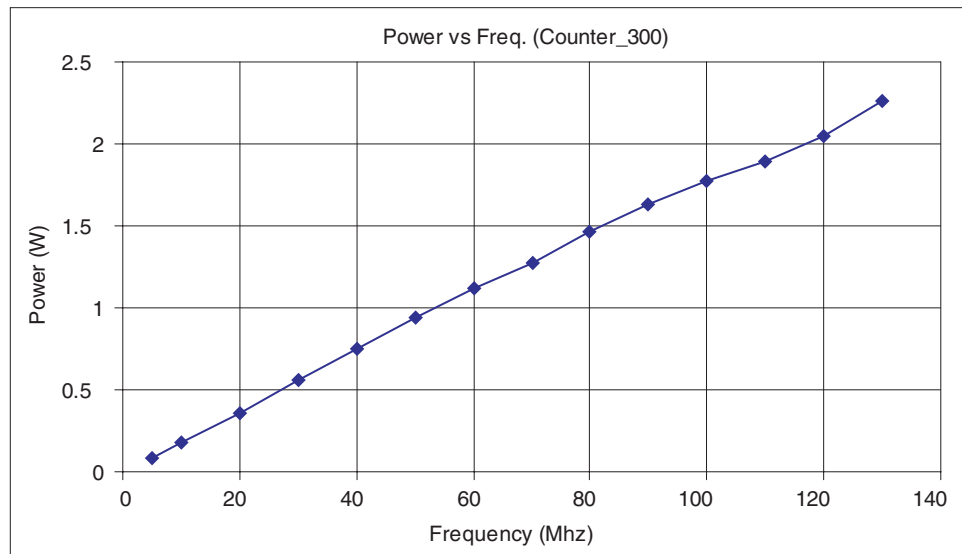

Figure 22: Power Consumption
Figure 22 exhibits the power consumption in an EclipsePlus QL7180 device. The chip was filled with (300) 8-bit counters—approximately 76% logic cell utilization.